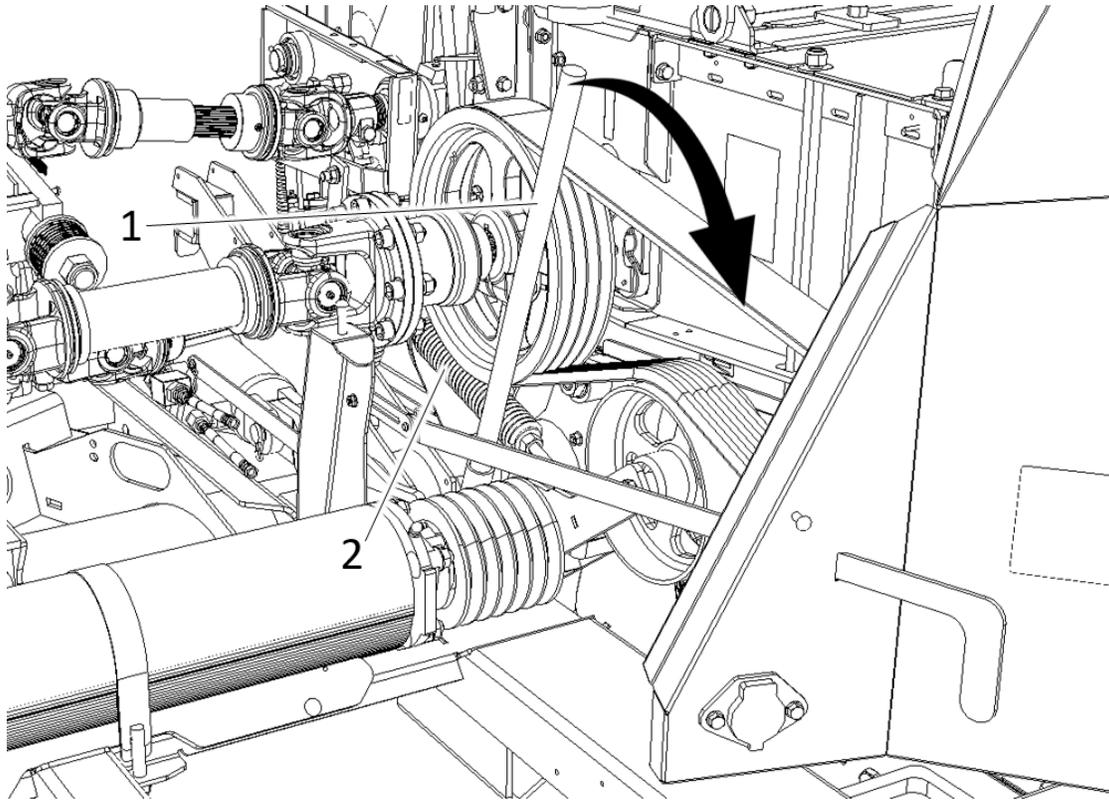

Figure 21 Accelerator tensioner
### STEP 3 - FIGURE 21
Reinstall the accelerator belt and hook the spring back on (item 2). Use the knife guide bar (item 1) to reset the tension in the belts. (Reverse from Step 3 – Figure 21 Accelerator ).